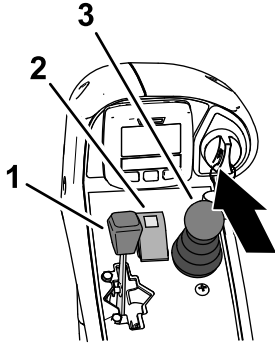

Figure 35
2. Ensure that the PTO switch is set to the DISENGAGE position (Figure 35).